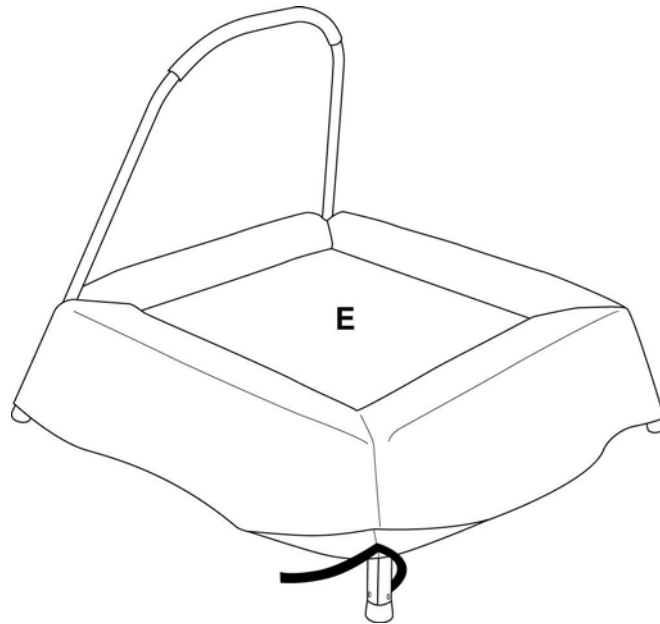

Figure 8
Step 8: Unfold the padding to cover the whole frame. Secure the front padding onto the frame with the Velcro tying straps as shown in Figure 8.